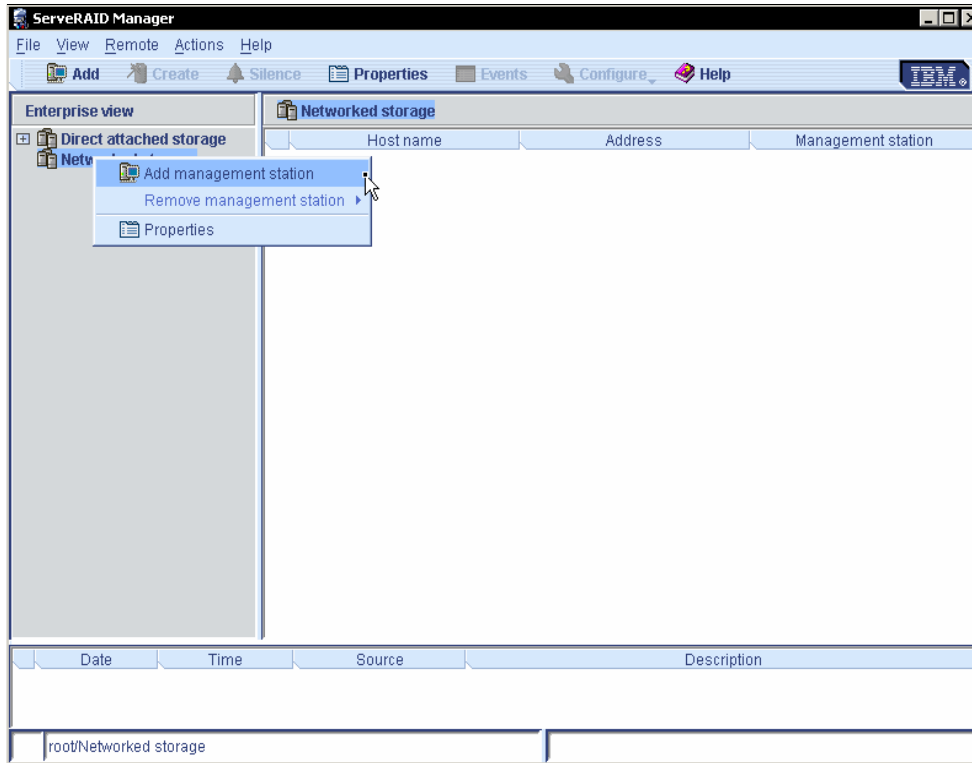

Figure 26 Add Management Station to ServeRAID
- a. The left side of the ServeRAID Manager program interface is the Enterprise view. From there, right-click **Networked storage**, and select **Add management station**, as shown in Figure 26 on page 25.